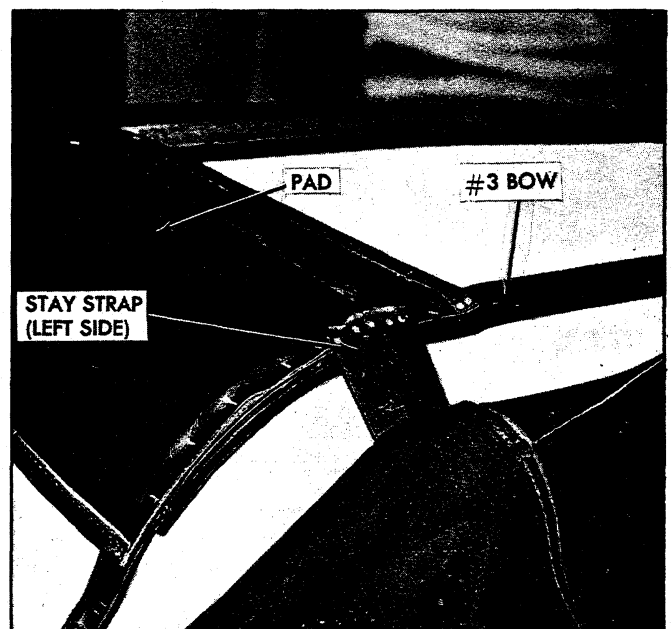

Fig. 108—Installing Stay Strap
5. Lock down rear bow in desired "top up" position. Pull up stay straps and staple or tack to #3 bow (fig. 108).